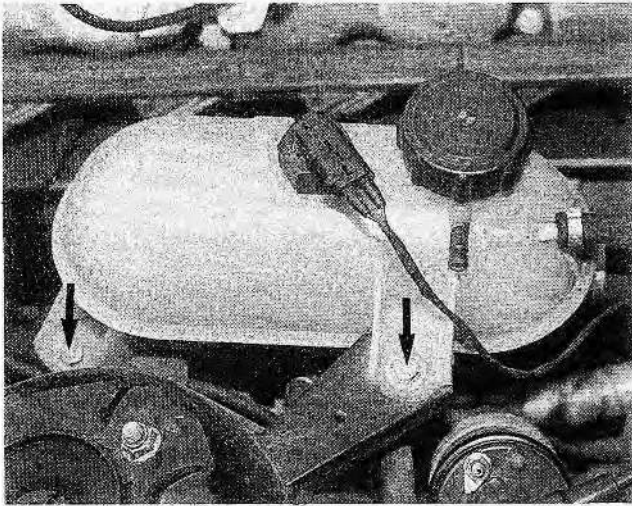

Fig. 4-59. Mounting bolts on coolant reservoir installed on 1984 through 1987 models (arrows).
18. Remove the coolant reservoir from its mountings without disconnecting any of the hoses. On 1984 through 1987 models, remove the two mounting bolts. See Fig. 4-59. On 1988 and later models, carefully pull the reservoir from its mountings. Set the reservoir out of the way.